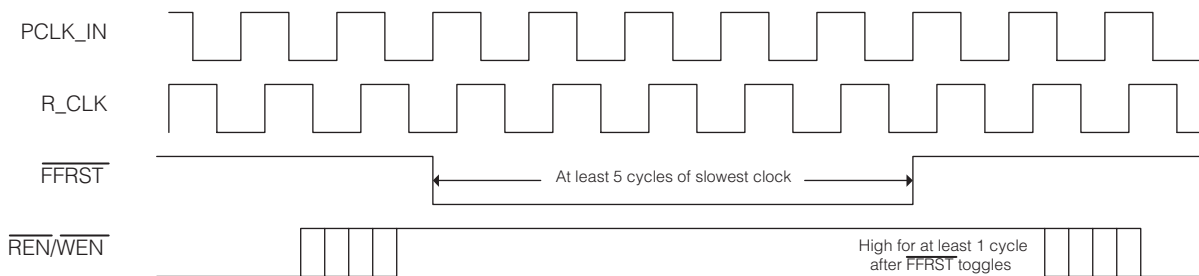

Fig. 16 Recommended External FIFO Reset Process
In external FIFO control mode, the internal FIFO address pointers are reset to zero (0) using  $\overline{FFRST}$ . A recommended external reset process is shown in Figure 16.